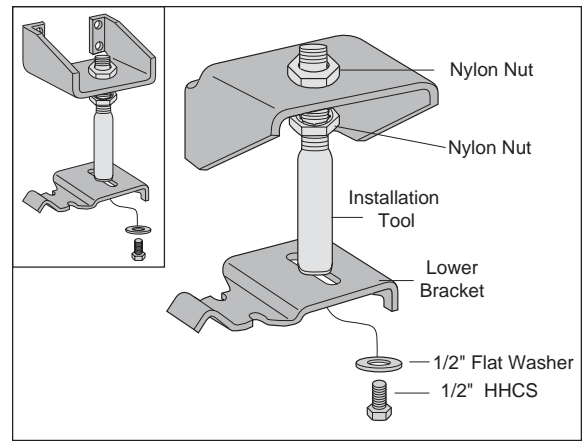

Figure 4
2. Secure the upper bracket (B) to the installation tool (D) using the provided nylon nut (F) (Figure 4).
**1987 and older Chevy/GMC 4WD only:** The upper bracket must be installed with the legs of the upper bracket “legs up”. Refer to Figure 4 Inset.
3. Loosely attach the tool to the lower bracket (C) using 1/2" flat washer (G) and 1/2" bolt (H). Refer to Figure 4. Leave loose for adjustment.